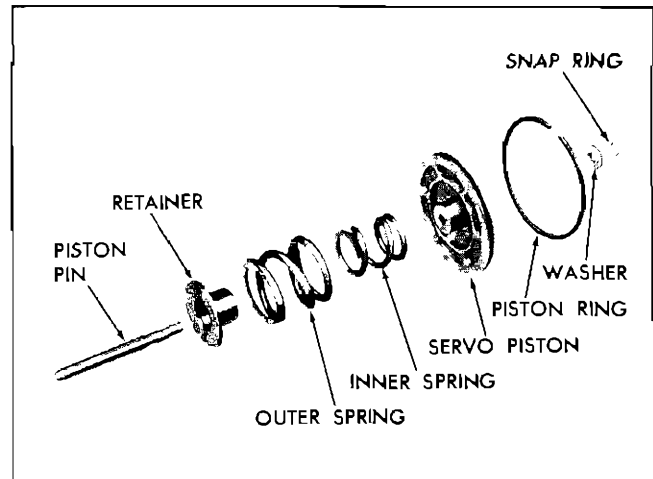

Fig. 99 Servo Piston—Exploded
2. Install the spring retainer, springs and servo piston over the servo piston pin (Fig. 99).